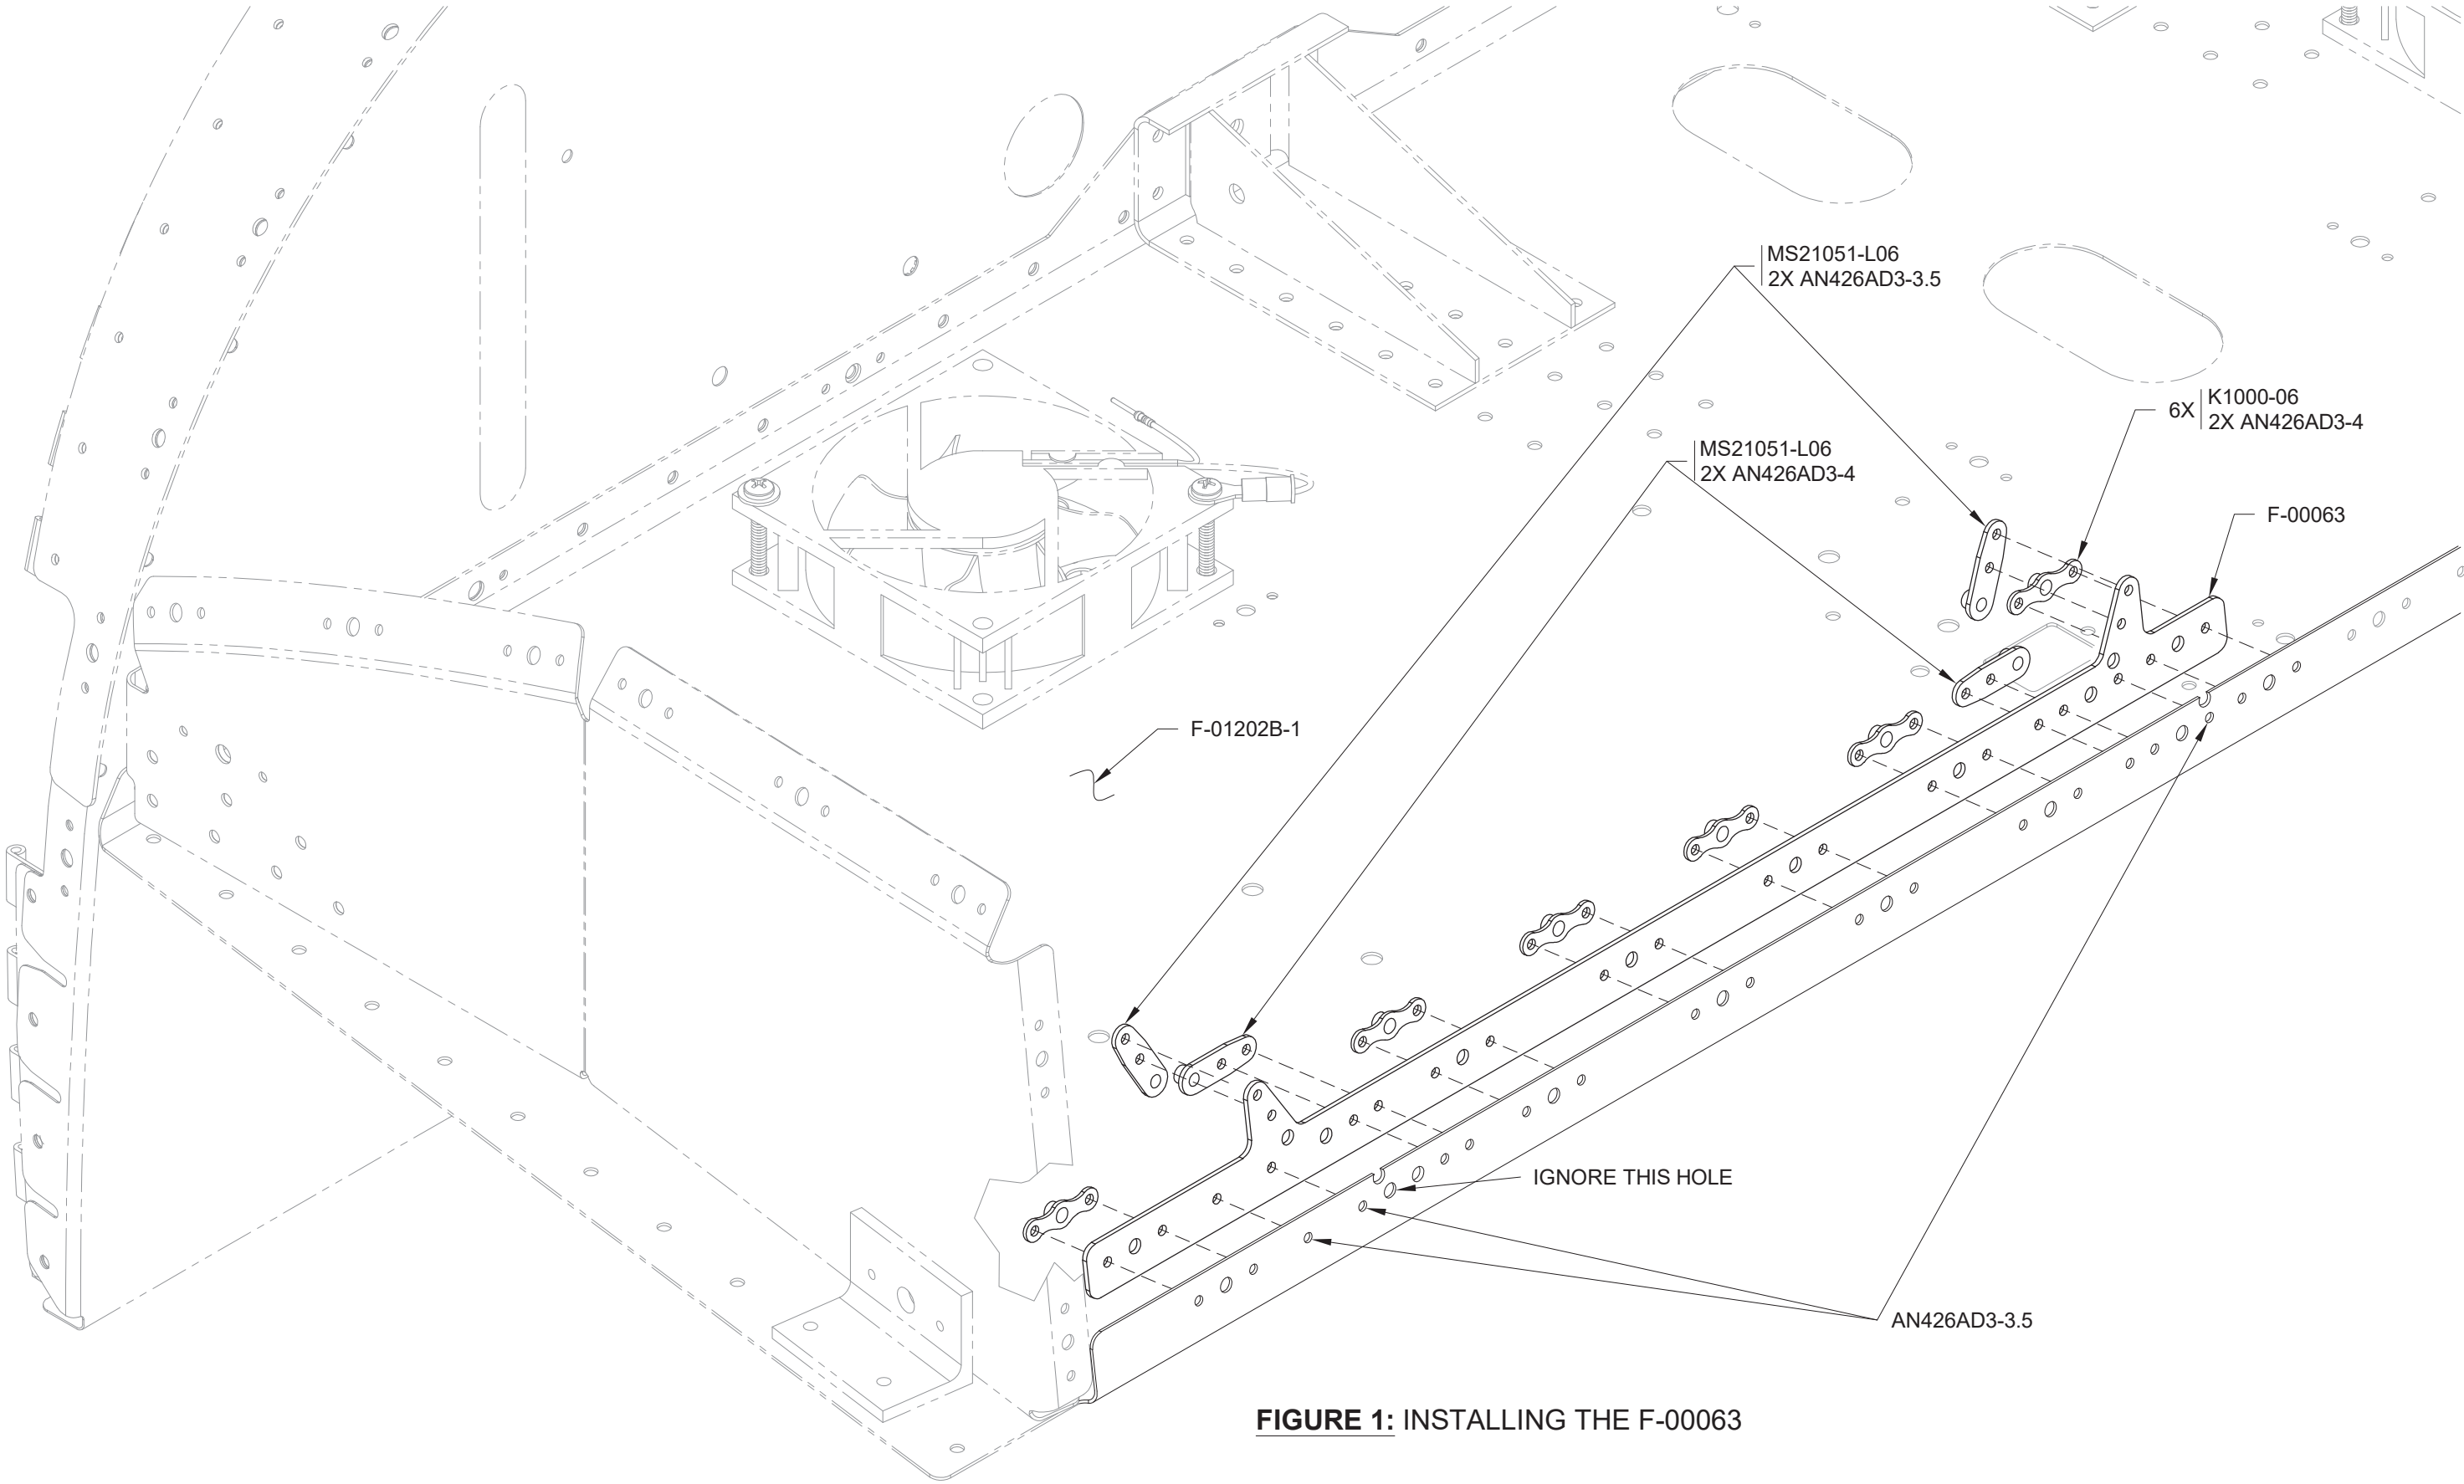

FIGURE 1: INSTALLING THE F-00063
Step 1: Rivet the F-00063 Doubler and nutplates to the forward side of the F-01202B-1 Panel Base flange as shown in Figure 1.
Step 1: Separate the F-00074-1 Garmin Xpndr Firewall Brackets as shown in Figure 1.